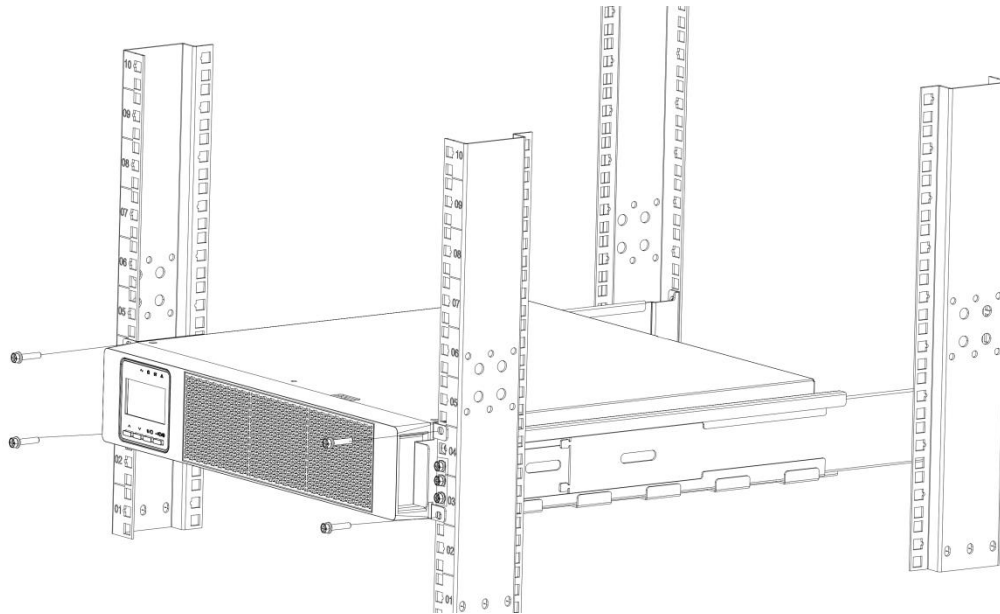

Figure 9: Secure the Mounting Brackets to the Rack
16. Align the mounting brackets with the screw holes on the rack and secure the UPS with the supplied 4x Phillips Hex Head M5 screws (see Figure 9).